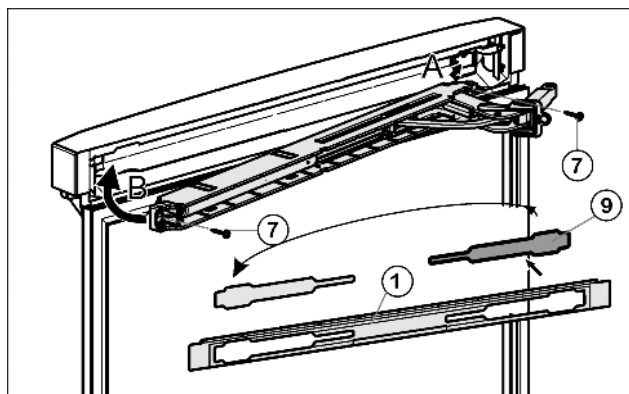

Fig. 17
- ▶ Remove the cover Fig. 17 (9) from the faceplate Fig. 17 (1) and re-insert it at the other side.
- ▶ Engage the upper soft stop unit with the joint on the hinge side (A) and swivel into place (B).
- ▶ Screw the soft stop unit firmly into place (2 mal Torx® 15) Fig. 17 (7).